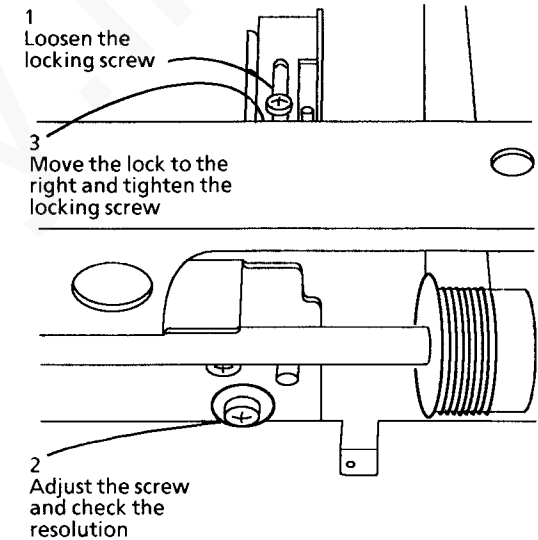

Figure 2. Adjusting the Resolution
3. Adjust the resolution (Figure 2).